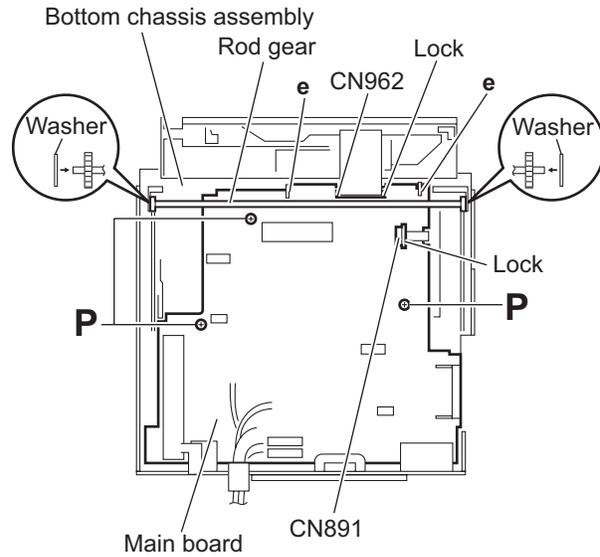

Fig.17
- From the top side of the main body, take out the rod gear. (See Fig.17.)
When attaching the rod gear, attach the washers with it as before. (See Fig.17.)
- Release the lock of the connector CN962 on the main board in an upward direction and disconnect the flexible wire. (See Fig.17.)
- Release the lock of the connector CN891 and disconnect the card wire. (See Fig.17.)
- Remove the three screws **P** attaching the main board to the bottom chassis assembly. (See Fig.17.)
When attaching the main board, attach the main board under the sections **e** of the bottom chassis assembly as before. (See Fig.17.)